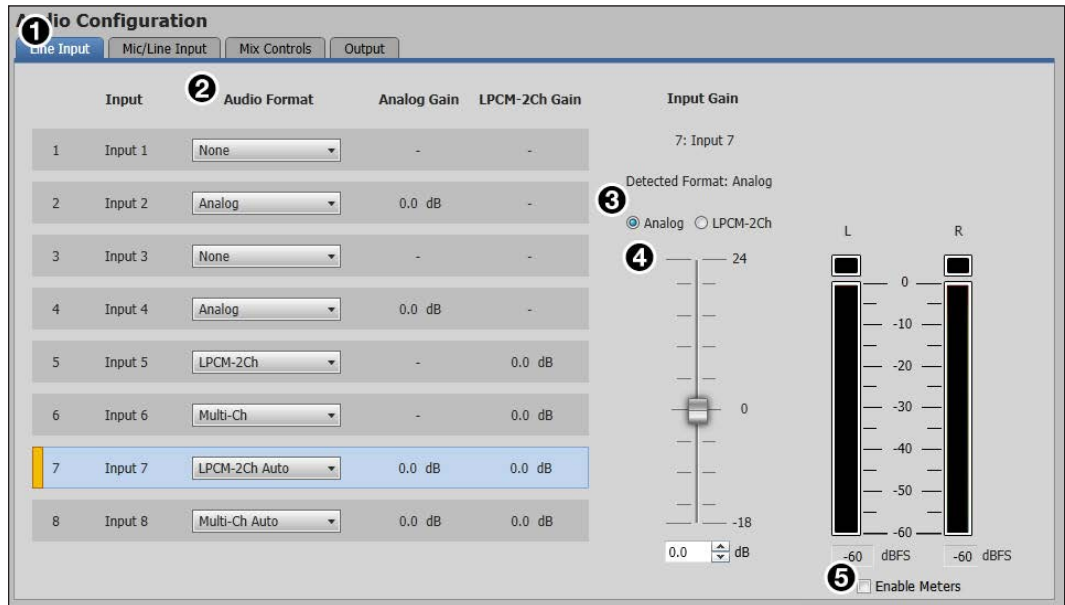

Figure 70. Line Input Tab (IN1608)
1. Click the **Line Input** tab (see figure 70, **1**, on the previous page).
3. If the audio input format is set to **LPCM-2Ch Auto** or **Multi-Ch Auto**, click the **Analog** radio button to adjust analog input gain or click the **LPCM-2Ch** radio button to adjust digital input gain (see figure 70, **3**).
1. Click the **Line Input** tab (see figure 70, **1** on page 99).